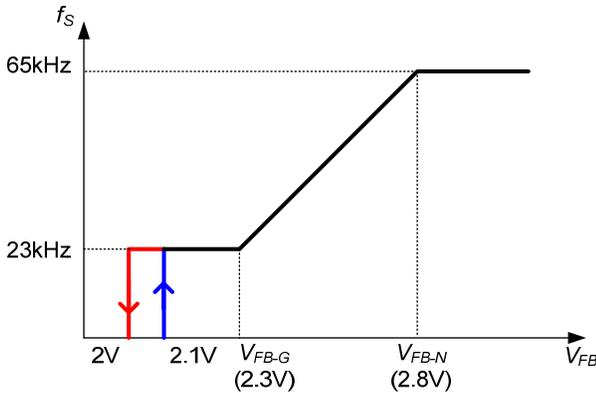

Figure 6. V_{FB} vs. PWM Switching Frequency
- Figure 6 shows the frequency modulation curve of FAN6756. If the system operates in frequency reduction region (from V_{FB-N} to V_{FB-G}), estimation of the peak current becomes more complex since the switching frequency varies with feedback voltage, V_{FB} . Therefore, make sure that V_{FB} is over V_{FB-N} when output power is closed to P_O^{OPP} . In addition, the high/low line compensation is more accurate since the switching frequency is identical in high/low line when V_{FB} is over V_{FB-N} .